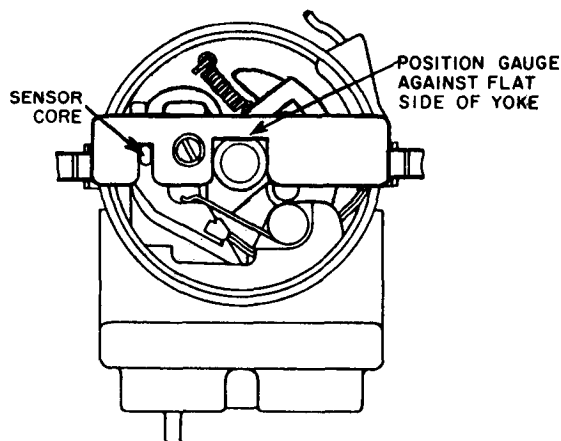

FIG. 28-POSITIONING OF SENSOR GAUGE
With the ignition switch in the START or RUN position the control unit is activated (Figure 28). At this time, an oscillator, contained in the control unit, excites the sensor which is contained in the distributor. When the sensor is excited, it develops an electromagnetic field. As the leading edge of a tooth of the trigger wheel enters the sensor field, the tooth reduces the strength of oscillation in the sensor. As the oscillator strength is reduced to a predetermined level, the demodulator circuit reacts and issues a signal. The demodulator switching signal controls a power transistor which is in series with the coil primary circuit. The power transistor switches the coil primary circuit off, thereby inducing the high voltage in the coil secondary winding. High voltage is then distributed to the spark plugs by the distributor cap, rotor, and ignition cables.
(8) Place the sensor positioning gauge over the yoke and move the sensor sideways until the gauge can be positioned as shown in Figure 28. With the gauge in place, use a small blade screwdriver to snug down the retaining screw. Check the sensor position by removing and replacing the gauge. When properly positioned, it should be possible to remove and replace the gauge without any side movement of the sensor. Tighten the retaining screw to 5 to 10 oz.-in. torque, then recheck the sensor position as before.
(9) Remove the gauge and set the trigger wheel in place on the yoke. Visually check to make certain the sensor core is positioned approximately in the center of the trigger wheel legs and that the trigger wheel legs cannot touch the sensor core.